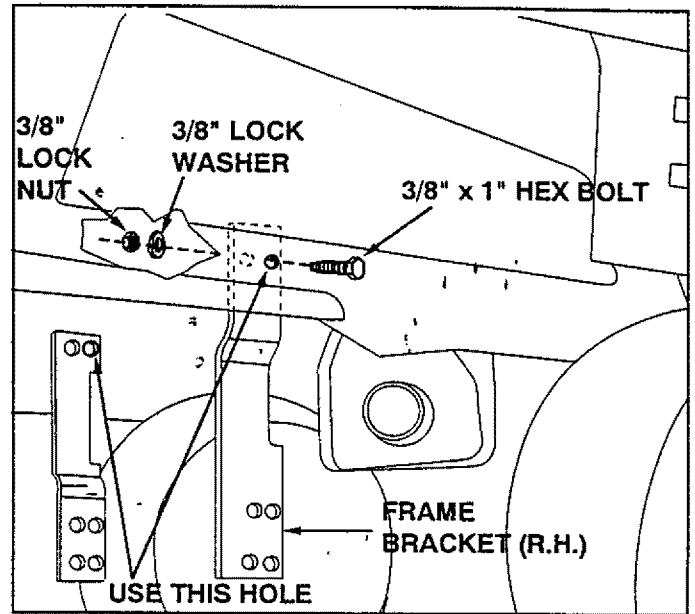

FIGURE 9
- Attach frame brackets (R.H. and L.H.) to the inside of tractor frame using the front hole in the brackets and the hole in each side of tractor frame that is at the front of the foot rest and the back edge of the engine. See figure 9. Fasten each bracket with one 3/8" x 1" hex bolt, lock washer and lock nut. (Note that brackets are positioned with the bends pointing in, the notched side to the front and the four holes at the bottom.) **Do not tighten.** See figure 9.